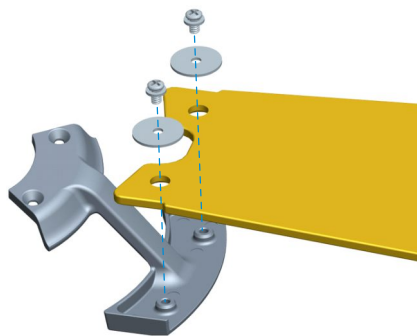

Fig 2.1
2.1 Locate 10 blade attachment screws and washers in the hardware pack. Secure each blade to the blade bracket with the screws and washers as shown in Fig 2.1.